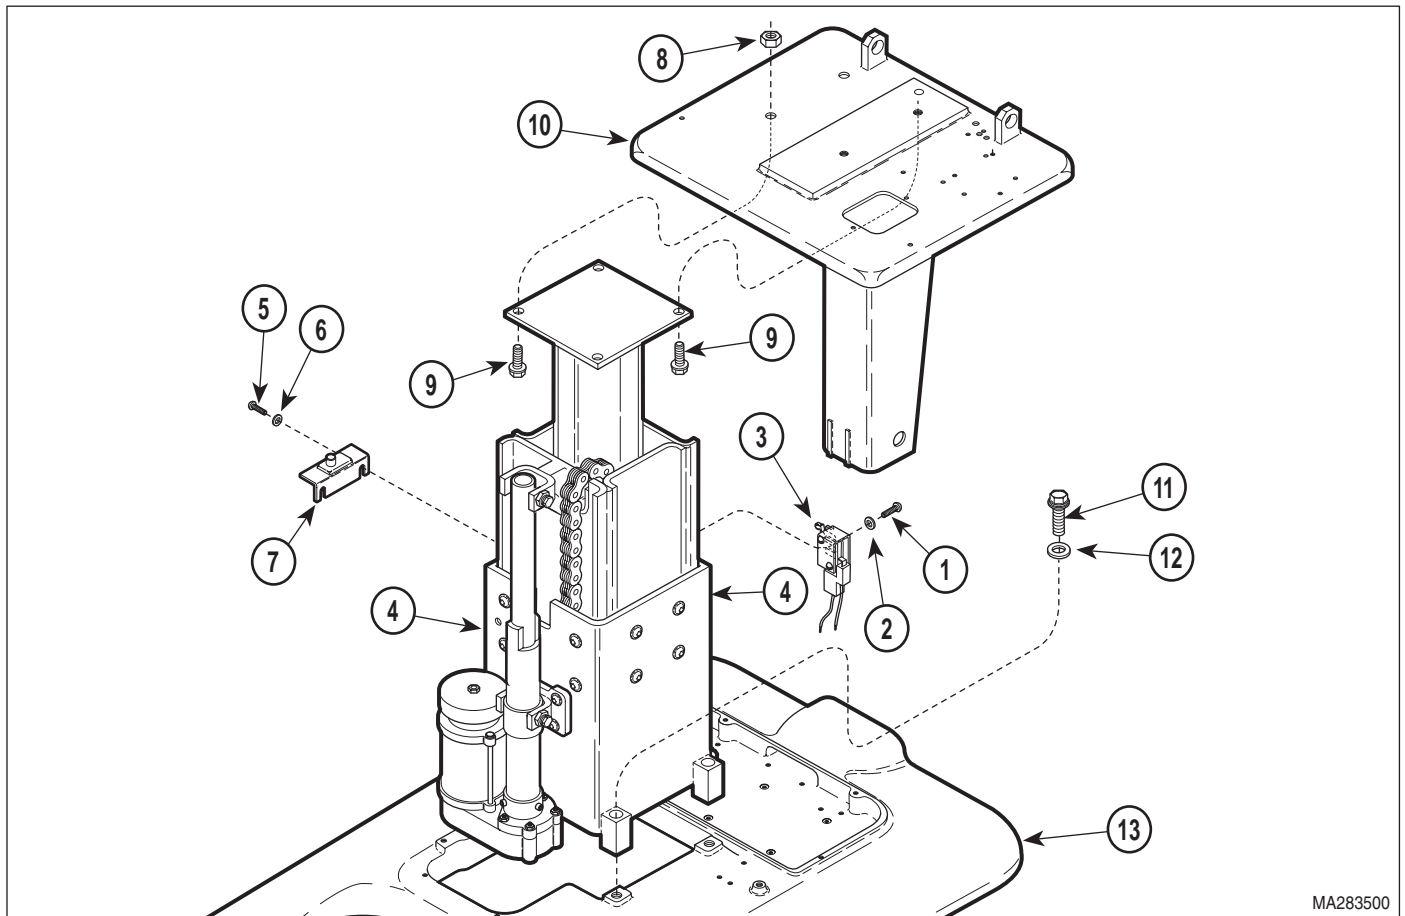
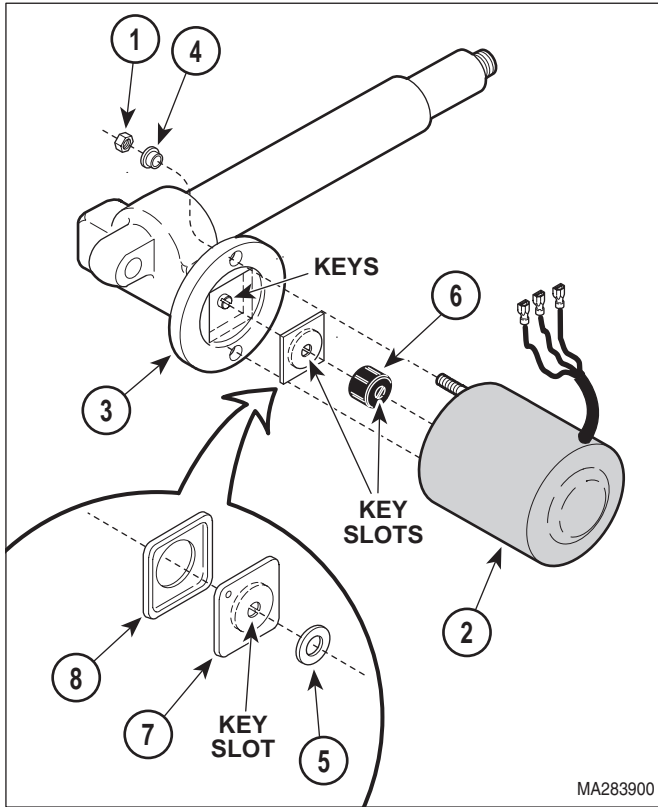

Figure 4-19. Column Assembly Removal / Installation
Figure 4-20. Actuator Motor / Actuator Brake Removal / Installation
- (14) Remove two pivot screws (10) and partially remove base actuator (8) from column assembly (5). Allow base actuator to lay off on side.
- (15) Loosen three screws (11).
- (16) Remove two screws (1, Figure 4-19), lockwashers (2), and base up limit switch assembly (3) from column assembly (4).
- (17) Remove two screws (5), lockwashers (6), and base down limit switch assembly (7) from column assembly (4).
- (18) Remove two locknuts (8) and four screws (9) which secures column assembly (4) to column adapter weldment (10).
- (19) Remove four screws (11) and washers (12) securing column assembly (4) to base weldment (13).
- (20) Remove column assembly (4) from base weldment (13).
- (1) Position column assembly (4, Figure 4-19) in base weldment (13) and secure with four washers (12) and screws (11). Tighten four screws (11) to 50 to 60 ft-lbs (67.8 to 81.4 N•m).
- (13) Secure shaft of base actuator (8) to column assembly (5) and secure with two pivot screws (7). Tighten pivot screws to 50 to 60 in-lbs. (5.6 to 6.8 N•m).
- (14) Tighten two jam nuts (6) to 45 to 55 ft-lbs. (61 to 74.6 N•m).
- (15) Tighten three screws (11) to 17 - 20 ft-lbs (23 - 27.1 N•m).
- (16) Run TABLE UP function to align column assembly (4, Figure 4-20) with column adapter weldment (10).
- (17) Secure column assembly (4) to column adapter weldment (10) with four screws (9) and two locknuts (8).
- (18) Run TABLE UP function up slightly, and remove supports from under table top.
- (19) Install base down limit switch assembly (7, figure 4-19) on column assembly (4) and secure with two lockwashers (6) and screws (5).
- (20) Adjust base down limit switch (Refer to para 4.15).
- (21) Install base up limit switch assembly (3) on column assembly (4) and secure with two lockwashers (2) and screws (1).
- (1) Remove malfunctioning actuator assembly: Tilt actuator assembly (Refer to para 4.3). Back actuator assembly (Refer to para 4.5). Foot actuator assembly (Refer to para 4.9).
- (2) Remove two nuts (1, Figure 4-20) and actuator motor (2) from actuator mechanism (3).
- (3) Remove two shoulder washers (4) from actuator mechanism (3).
- (4) Remove spacer (5) and motor coupler (6) from shaft of actuator motor (2).